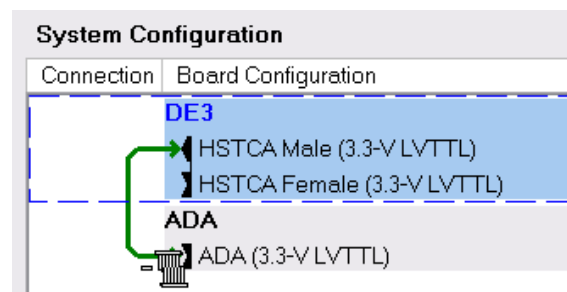

Figure 4.6. Step 3 of establishing a connection
- iii. Release the left mouse button and a green connection line will be drawn between two connectors as shown in Figure 4.6.